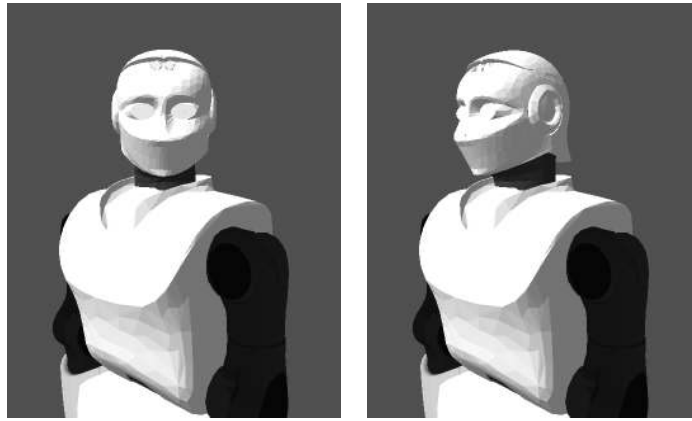

Figure 115: Moving a single joint: turn head to the left (left), and to the front (right).
2. The expected goal configuration is shown in Figure 115, left, and the expected command-line output should look similar to the following:
4. The expected goal configuration is shown in Figure 115, right, and the expected command-line output should look similar to the following: